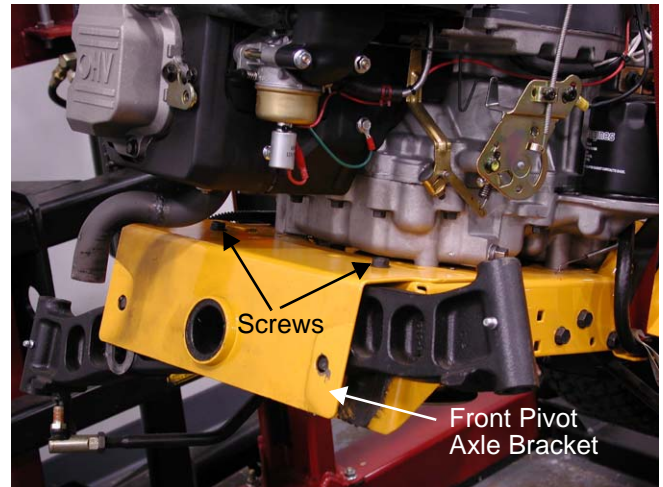

Figure 37.20
- 37.20. Remove both self tapping screws securing the front pivot axle bracket to the frame using a 1/2" socket. See Figure 37.20.